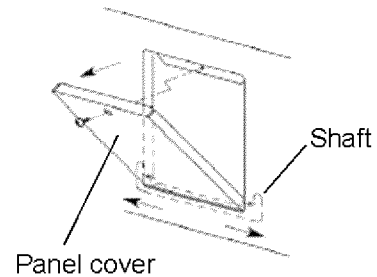

Fig. 14
2. Unscrew the screw fixing the panel cover at the space for automatic temperature recorder and open the panel cover. [Fig. 14]